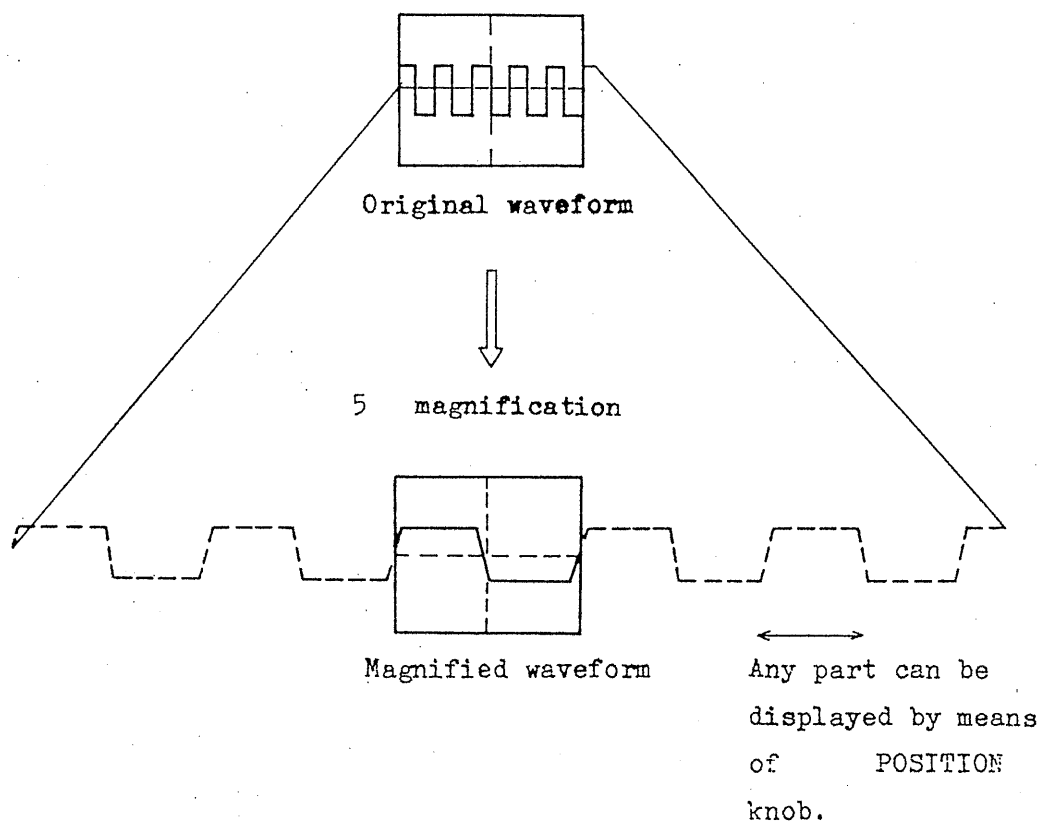

Fig. 10
When a part of the input signal waveform is required to be enlarged for observation of details, a faster sweep speed may be used. However, if the part to be enlarged is apart from the start of the sweep, the part may run out of the screen. In such a case, by pulling out the HORIZONTAL POSITION knob (20), the displayed waveform can be magnified by 5 times to right and left from the center of the screen as shown in Fig. 10.